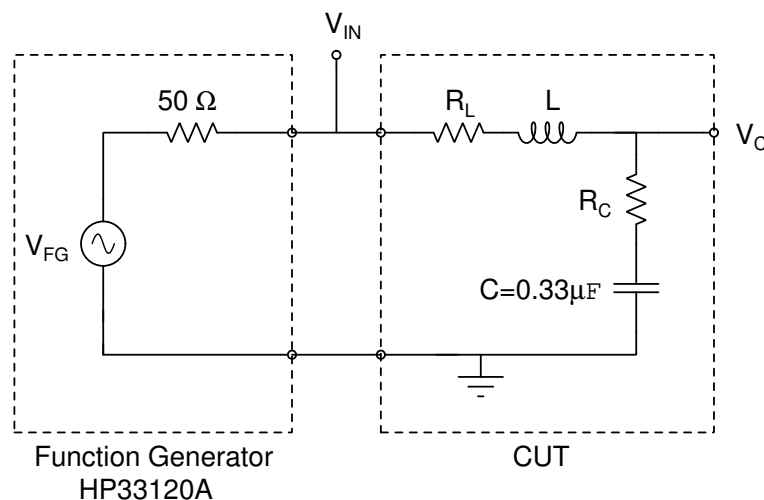

Figure 1: RLC circuit analyzed and measured in Lab #6.
3. Consider the circuit in **Figure 1** with $R_C = R_L = 0\ \Omega$ and $L = 1\ \text{mH}$.
- (e) Set the function generator (FG) to produce a 1 Vp sine wave with a 2 Vdc offset at a frequency of 1 kHz. Verify the signal is correct using the oscilloscope. What DC offset voltage is displayed on the FG?
3. Build the RLC circuit shown in Figure 1.
- 2. Use NGSpice to simulate the RLC circuit shown in Figure 1 using the measured values of the capacitor and inductor including the equivalent series resistances R_C and R_L .